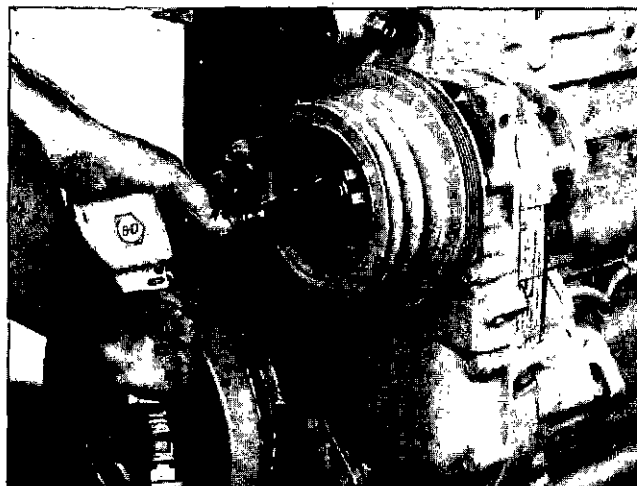

Fig. 0-33. Remove The Accessory Drive Pulley.
2. Use the ST-647 Puller to remove the pulley, Fig. 0-33. If the threads in the capscrew holes are distorted, install a tap with the same thread size into the holes. Remove the tap. Install the ST-647. Be careful and do not let the capscrews damage the gear cover.